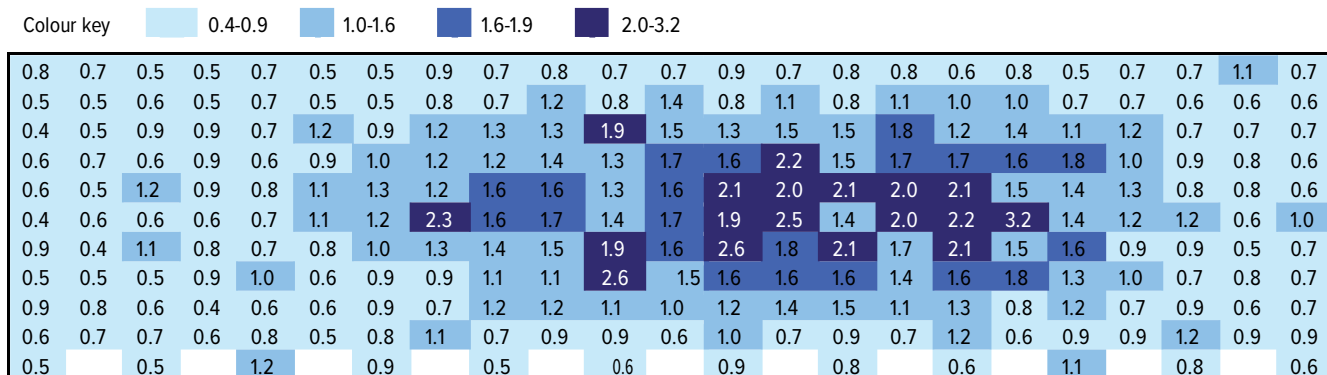

Figure 3: Moisture map showing a wet spot in the center of the freeze dryer shelf.
The traditional methods for residual moisture determination in the pharmaceutical industry are Karl Fischer (KF) titration methods. For process studies, these methods are not conducive to conducting studies with statistically relevant sample sets as they are resource intensive and sample analysis throughput is limited. Moreover, valuable product is destroyed because of the destructive nature of the measurement. The absence of statistically relevant data means that residual moisture studies are at risk of being imprecise and that limited insight can be gained into the consequence of process variability on final product quality. Headspace water vapor levels measured inside of a freeze-dried vial have been directly correlated to KF measurements of those same vials. Figure 3 shows the measured headspace moisture levels of freeze-dried product produced on a shelf in a pilot freeze dryer. The numbers in the graphic are the measured water vapor levels in each vial in units of torr with the darker colors